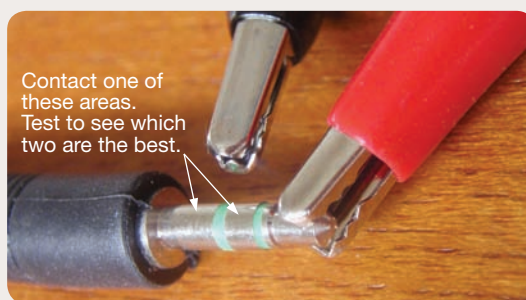

Figure C1.37
- step 2:** Connect one end of the battery pack to the headphone plug with test leads, as shown in Figure C1.37.